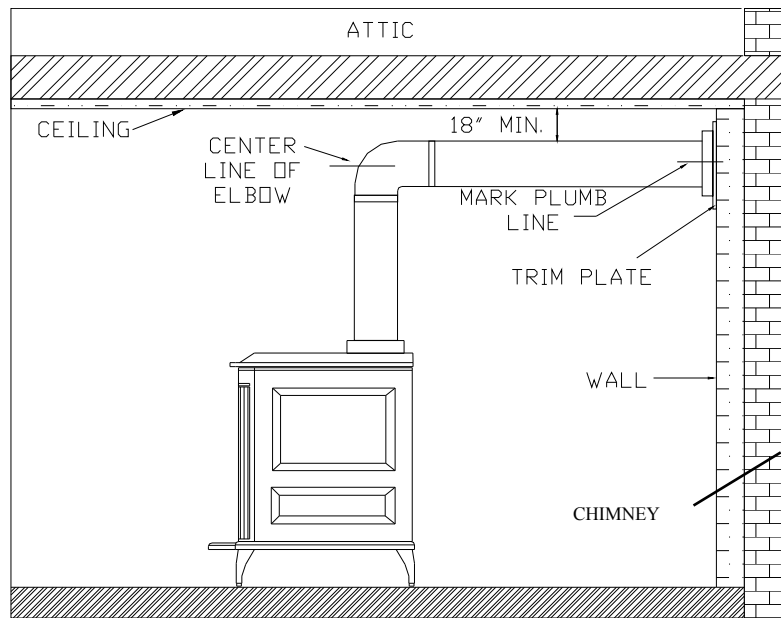

Figure 9
1. Before connecting these units to a masonry chimney, determine that the masonry fireplace wall pass-through connector thimble meets the NFPA-211 Code and local building codes and is a minimum of 18" from the ceiling. If the connector thimble does not meet these codes, the pass-through connector must be modified. (See Figure 9.)